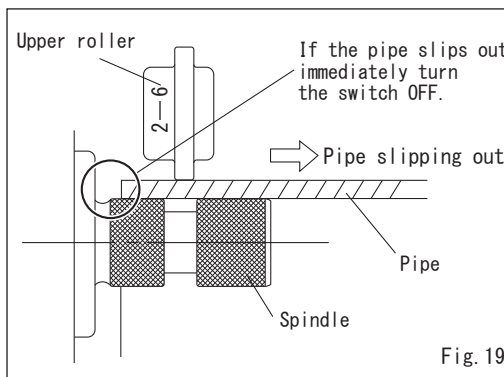

Fig. 19
- If the pipe should slip off the spindle flange surface, turn the pipe threading machine "OFF" immediately to stop pipe rotation. If rotation continues with the pipe slipping out, the pipe will become detached from the spindle and fall down, which may cause an accident. (Fig. 19) Loosen the handle and re-set the pipe. If the pipe slips out, shift the pipe a little more.